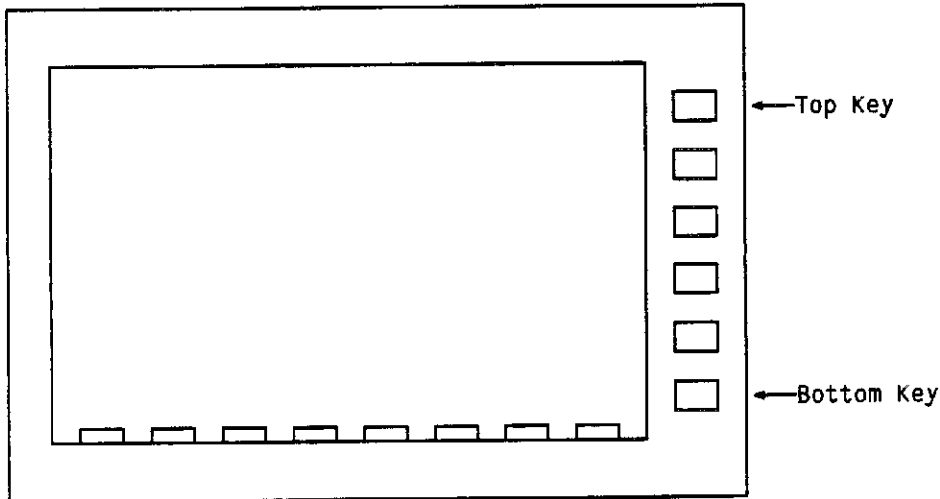

Figure 6C-1. Keys to Hold Down for Two-Key Powerup.
2. Press and hold the top and bottom function keys. Refer to figure 6C-1.